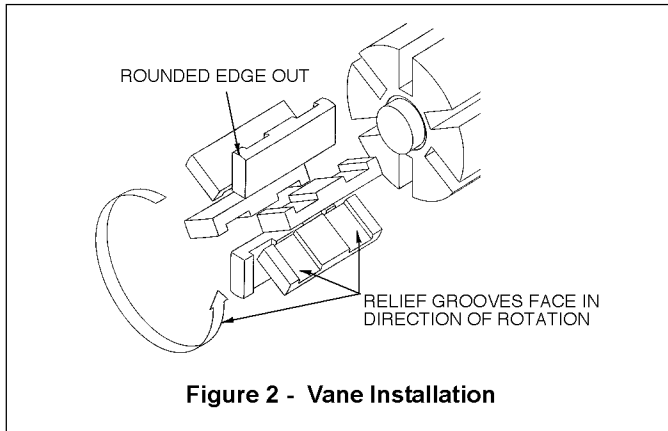

Figure 2 - Vane Installation
3. Install a new vane, ensuring that the rounded edge is UP, and the relief grooves are facing TOWARDS the direction of rotation. See Figure 2.
6. Lubricate the outboard head capscrews (21) with a quality grade of anti-seize compound. Install the head capscrews and uniformly tighten, torquing to 15 lbs ft (20.3 Nm).
7. Install a new bearing cover seal ring (26) and place the bearing cover (27) on the outboard head. Lubricate the bearing cover capscrews (28) with a quality grade of anti-seize compound and install, torquing to 11 lbs ft (15 Nm).
9. Remove the vanes (14) and push rods (77) from the rotor and shaft assembly. Inspect for wear and damage, and replace as follows:
- a. Insert vanes (14) into the bottom three rotor slots with the rounded edges facing outward, and the relief grooves facing TOWARDS the direction of rotation. Refer to Figure 2 for proper vane orientation.